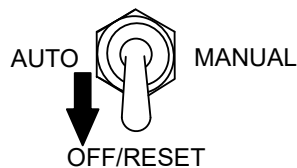

Figure 63. Auto Start/Stop Switch (Off/Reset Position)
5. Place the **Auto Start/Stop** switch (Figure 63) in the **OFF/RESET** position.